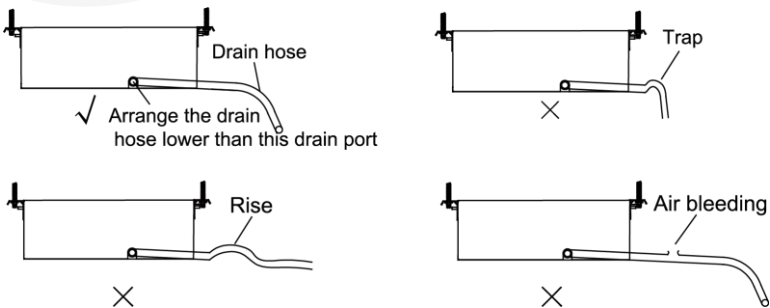

Fig. 4.21
- (1). Install the drain hose with downward gradient (1/50 to 1/100) and no risers or traps are used for the hose.(Fig. 4.21)
- (2). Be sure there is no crack or leak on the drain hose to avoid the formation of air pocket.(Fig. 4.21)